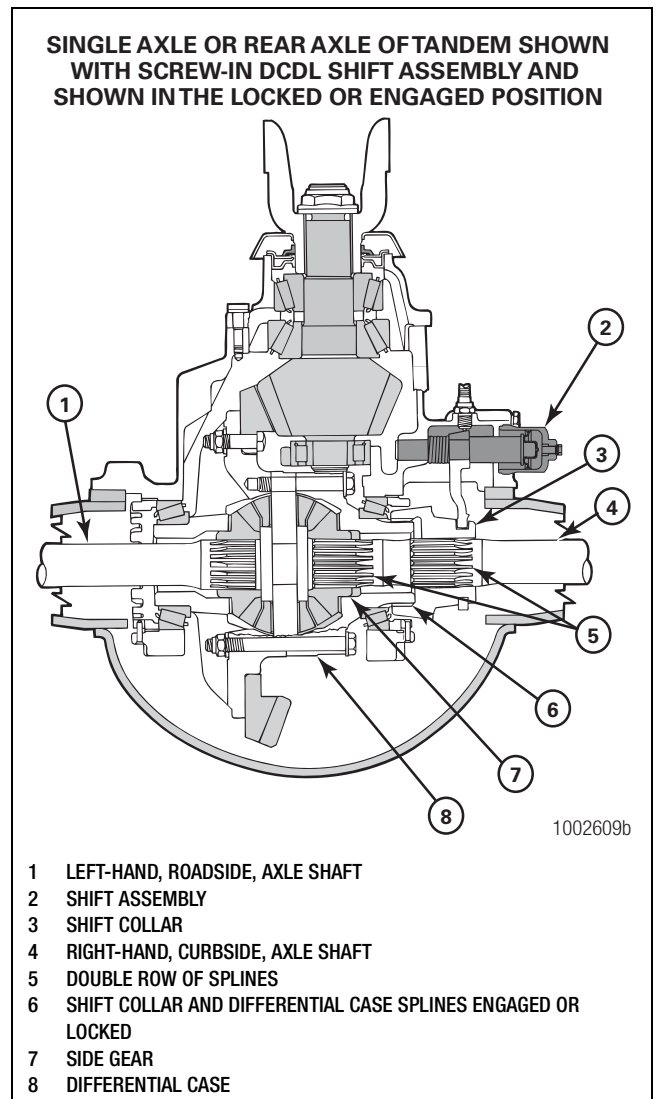

Figure 11.1
6. Remove the stud nuts or capscrews and washers from the flange of the axle shaft. Figure 11.1.
NOTE: Install only the axle shaft(s) shown in Table AJ at this time. These axle shafts have a double row of splines that engage with the splines of the side gear and shift collar in the main differential. Figure 11.1.
5. Install the gasket, if used, and axle shaft into the axle housing and carrier in the same location. The gasket and flange of the axle shaft must be flat against the hub. Rotate the axle shaft or the driveline as necessary to align the splines and the holes in the flange with the studs in the hub. Figure 11.1.